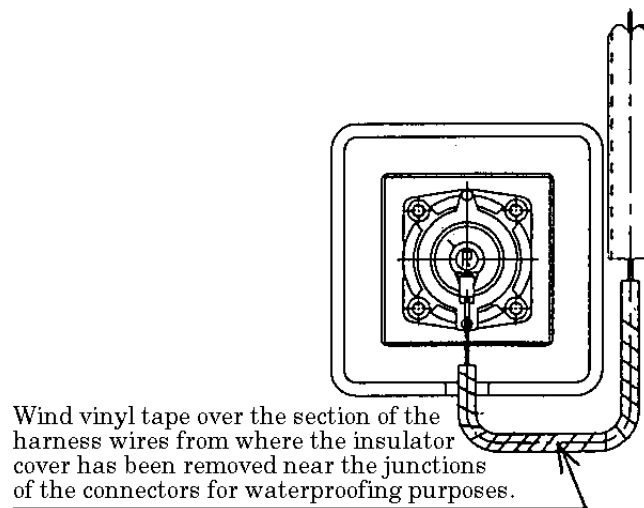

Fig. 5
- 6) Connect the wire harness to the transmitter and wind vinyl tape over the section of the harness wires from where the insulator cover has been removed near the junctions of the connectors for waterproofing purpose. (Refer to Fig. 5.)